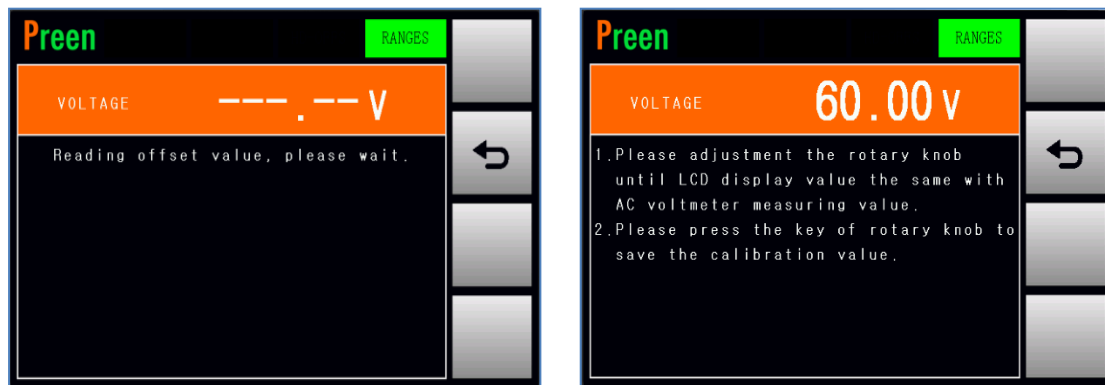

Figure 4.10 Enable the calibration of the HI-Range voltage 60V
3. Press the output & reset button on the front panel to enable the calibration of the HI-Range voltage 60V (refer to Figure 4.10), and then the product will start to output the voltage which is closed to 60V.